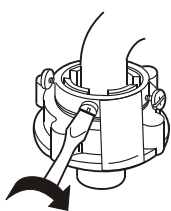

Figure 4
5. Extend the drain hose out of the other side. Fix the drain hose onto the cabinet with the drain hose rack. Set the drain hose nut on, and fasten the nut to the direction indicated in the figure, as per Figure 4.
3 Fasten the four screws of the water inlet hose jointer evenly. See to Figure 4.